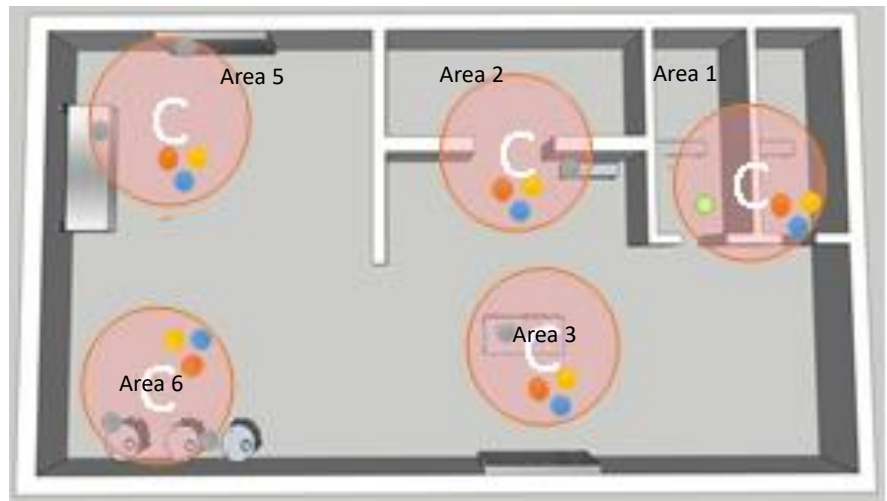

Figure 4: Determination of potential sample point locations.
4. **Definition of potential sample locations:** Determine a single sample location within a critical area, following these criteria as shown in Figure 4.